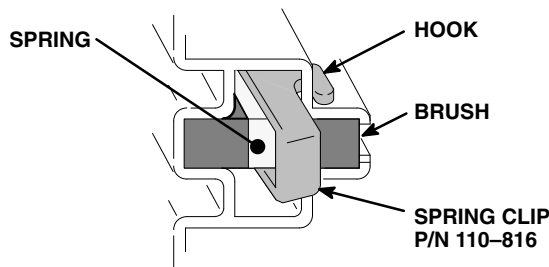

Fig. 12
3. Push in the spring clip to release its hooks from the brush holder. Pull out the spring clip. See Fig. 12.